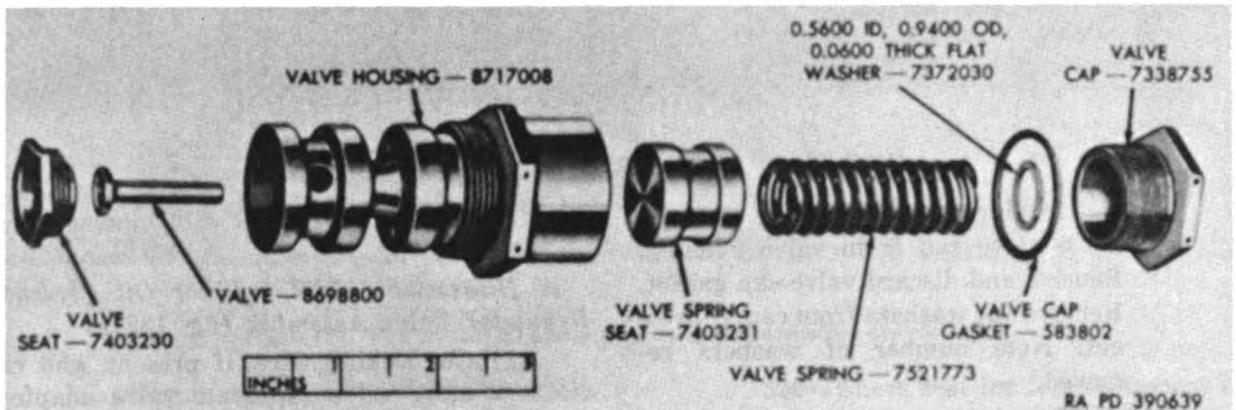
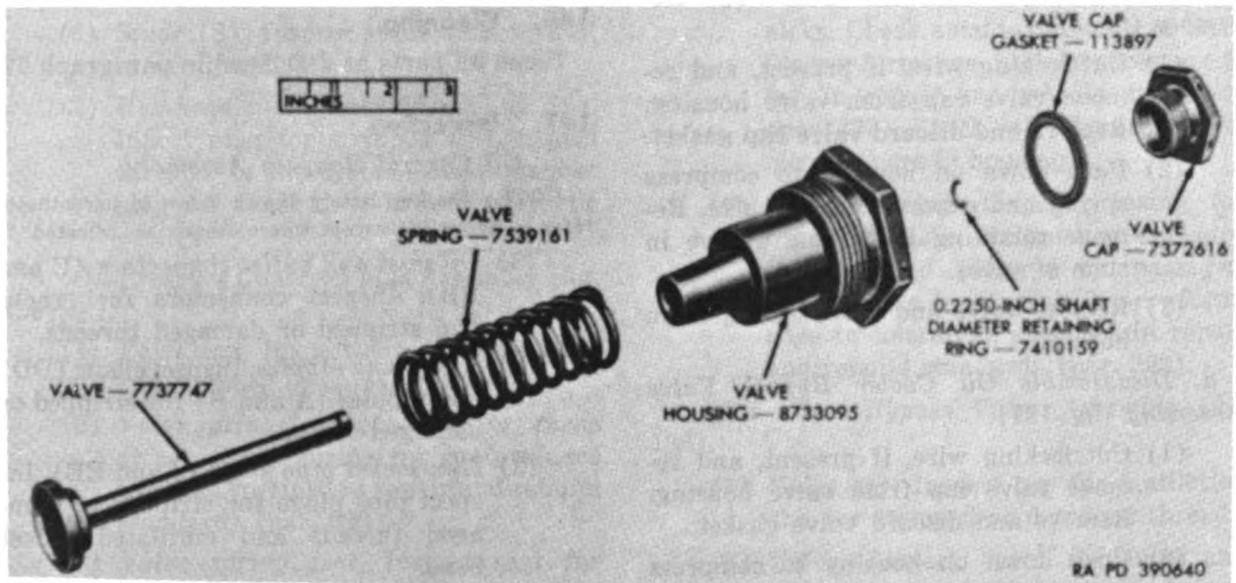
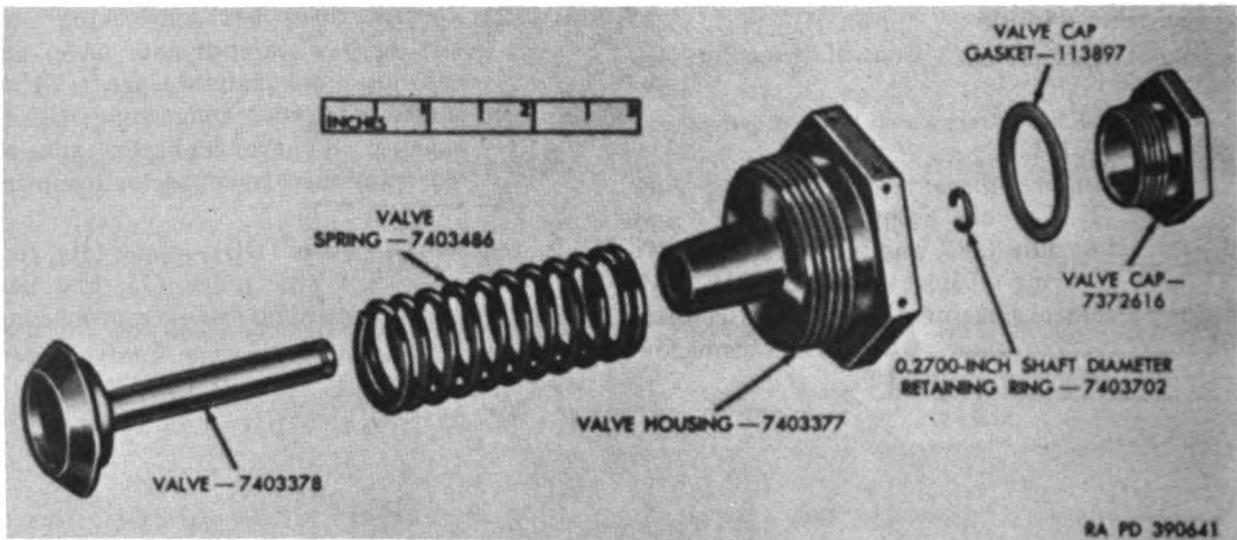
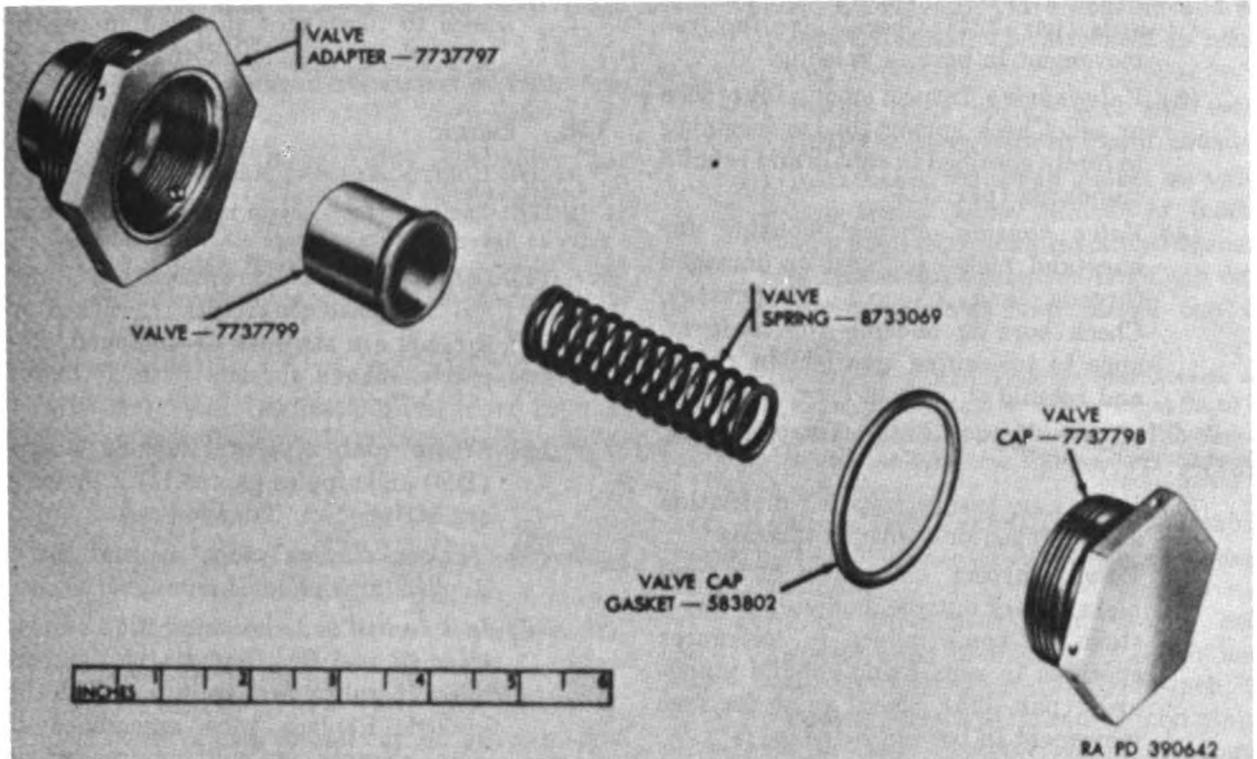

Figure 135. Oil pressure control valve assembly—exploded view.
Figure 136. Oil filter bypass valve assembly—exploded view.
Figure 137. Oil cooler bypass valve assembly—exploded view.
Figure 138. Fuel injector oil pressure regulator valve assembly—exploded view.
#### b. Disassemble Oil Pressure Control Valve Assembly (fig. 135).
- (1) Cut locking wire, if present, and remove valve cap from valve housing. Remove and discard valve cap gasket. Remove flat washers from cap, if present. Note number of washers removed.
- (2) Remove valve spring, valve spring seat, valve seat, and valve from housing.
*c. Disassemble Oil Filter Bypass Valve Assembly (fig. 136).*
- (1) Cut locking wire, if present, and remove valve cap from valve housing. Remove and discard valve cap gasket.
- (2) Push down on housing to compress spring and expose stem of valve. Remove retaining ring from groove in stem of valve.
- (3) Remove valve and valve spring from housing.
*d. Disassemble Oil Cooler Bypass Valve Assembly (fig. 137).*
- (1) Cut locking wire, if present, and remove valve cap from valve housing. Remove and discard valve gasket.
*e. Disassemble Fuel Injector Oil Pressure Regulator Valve Assembly (fig. 138).*
- (1) Cut locking wire, if present, and remove valve cap from valve adapter. Remove and discard valve cap gasket.
- (2) Remove valve spring and valve from adapter.
- b. *Oil Pressure Control Valve Assembly* (fig. 135).
- (1) *Valve cap*. Inspect cap for mutilation and stripped or damaged threads.
- (2) *Valve spring*. Inspect spring for cracks or set. Check spring for conformance to limits specified in repair and rebuild standards (par. 323).
- (3) *Valve spring seat*. Inspect seat for burs and nicks. Check seat for conformance to tolerances specified in repair and rebuild standards (par.
- (4) *Valve seat*. Inspect seat for mutilation and stripped or damaged threads.
- (5) *Valve*. Inspect valve for burs and nicks. Check outside diameter of stem for conformance to tolerances specified in repair and rebuild standards (par. 323). Check valve for free movement in bore in housing.
- (6) *Valve housing*. Inspect housing for burs and nicks, stripped or damaged threads, and plugged oil passages. Check bores in housing for conformance to tolerances specified in repair and rebuild standards (par. 323).
- c. *Oil Filter Bypass Valve Assembly* (fig. 136).
- (1) *Valve cap*. Inspect cap for mutilation and for stripped or damaged threads.
- (2) *Valve*. Inspect valve for burs and nicks. Check outside diameter of valve stem for conformance to tolerances specified in repair and rebuild stand-
- (3) *Valve spring*. Inspect spring for cracks or set. Check spring for conformance to limits specified in repair and rebuild standards (par. 324).
- (4) *Valve housing*. Inspect housing for burs and nicks, stripped or damaged threads, and plugged oil passage. Check bore in housing for conformance to tolerances specified in repair and rebuild standards (par. 324).
*d. Oil Cooler Bypass Valve Assembly (fig. 137).*
- (2) *Valve*. Inspect valve for burs and nicks. Check outside diameter of valve stem for conformance to tolerances specified in repair and rebuild standards (par. 325). Check valve for free movement in bore in housing.
- (3) *Valve spring*. Inspect spring for cracks or set. Check spring for conformance to limits specified in repair and rebuild standards (par. 325).
- (4) *Valve housing*. Inspect housing for burs and nicks, stripped or damaged threads, and plugged oil passage. Check bore in housing for conformance to tolerances specified in repair and rebuild standards (par. 325).
*e. Fuel Injector Oil Pressure Regulator Valve Assembly (fig. 138).*
- (2) *Valve spring*. Inspect spring for cracks or set. Check spring for conformance to limits specified in repair and rebuild standards (par. 326).